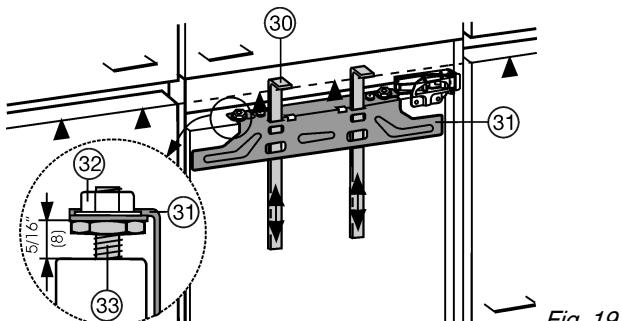

Fig. 19
- ▶ Slide up the assembly aids Fig. 19 (30) to the height of the unit door. Lower stop edge ▲ of the assembly aid = upper edge of the unit door to be fitted.
- ▶ Unscrew the crosspiece Fig. 19 (31) by undoing the lock-nuts Fig. 19 (32).